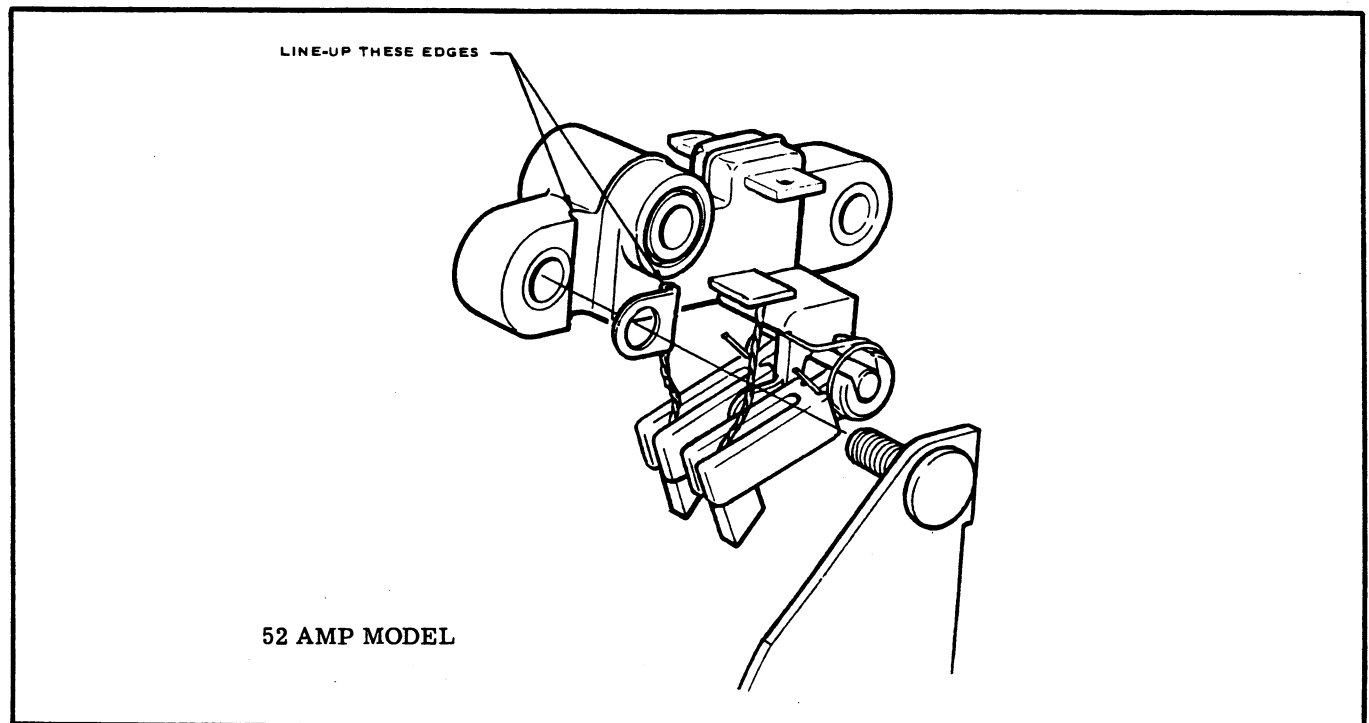

FIGURE 64
3. Line up terminal spacer with the three diode plate studs. Install outside brush eyelet terminal to the negative plate stud. Refer to Figure 64. Crimped edge of eyelet must be toward spacer. Position terminal spacer against diode plate.